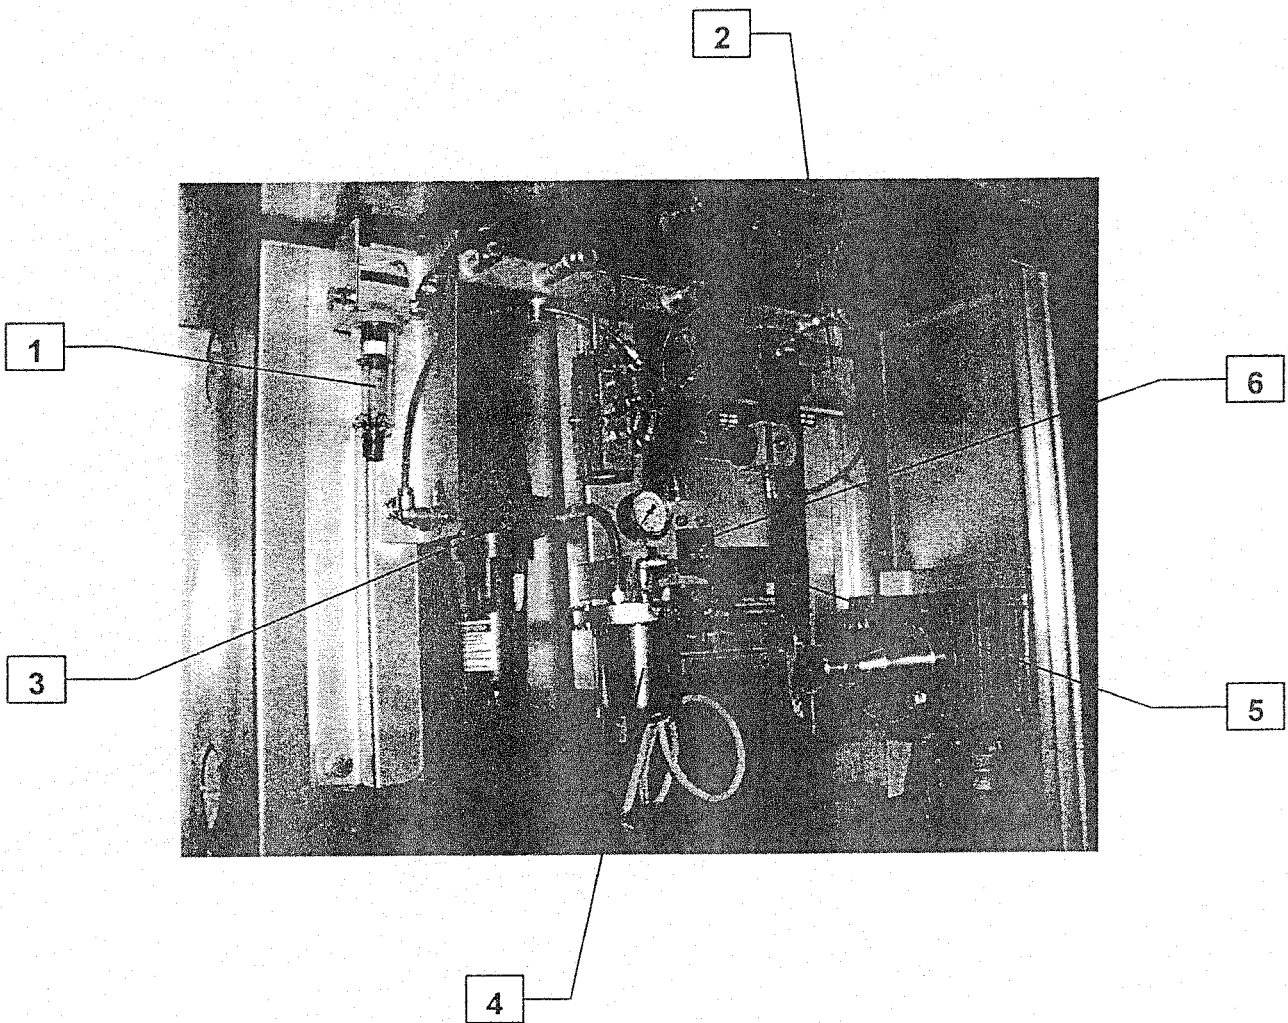

Fig. 3-5 – Pneumatic installation
The compressed air supplied to the machine (the machine doesn't include an air compressor) passes through a 1° filter (Fig. 3-5 pos. 1), a pressure multiplier (Fig. 3-5 pos. 2) to obtain the fit pressure to introduce air into the mixture, a 2° filtering set (Fig. 3-5 pos. 3) that carries out a separating-the-oil straining and an activated charcoals filtering to remove any oil steam and bad smells.
Eventually, before being introduced into the mix, the air flows through a sterilizing microporous filter (Fig. 3-5 pos. 4) specifically dimensioned to stop particles with typical bacteria dimensions.
The air is introduced into the duct through a flow adjusting valve (Fig. 3-5 pos. 5) that adjusts the quantity of air to mix according to the freezer capacity.
The pneumatic installation comprises also a pressure pickup (Fig. 3-5 pos. 6), which supplies an alarm when the mains compressed air pressure is too low, and the solenoid valve operating the by-passes of the CIP washing pumps.